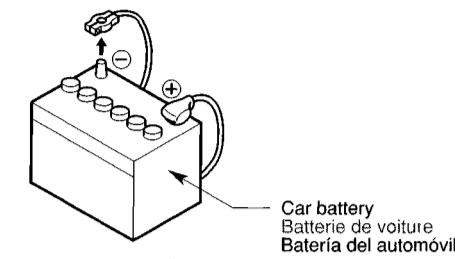

Figure 1 / Figure 1 / Figura 1
- Be sure to disconnect the battery “-” terminal before starting. This is to prevent short circuits during installation (Figure 1)
- S'assurer de débrancher la borne “-” de la batterie avant de commencer. Cela évitera les court-circuits pendant l'installation (Figure 1)